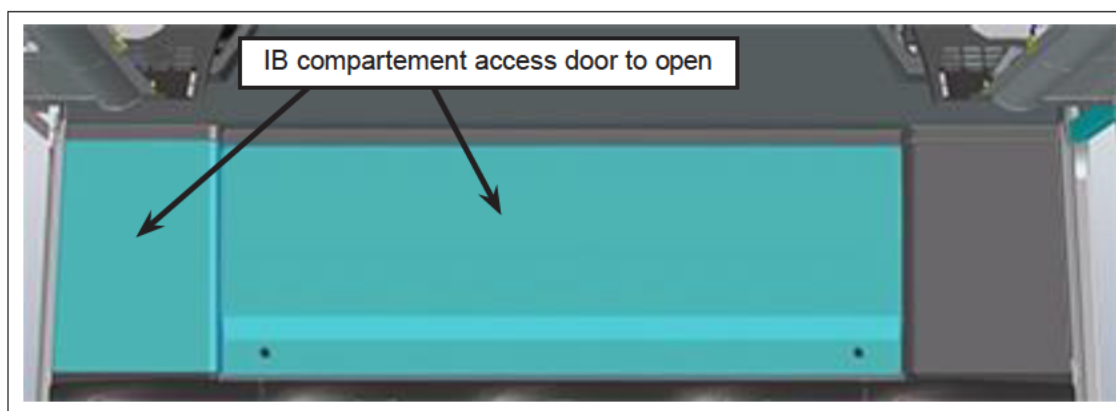

Figure 1 - IB Compartment Access Door to open
- 1.9. Open IB compartment access door. See Figure 1.
- 1.52. Close the IB compartment access door. See Figure 1.